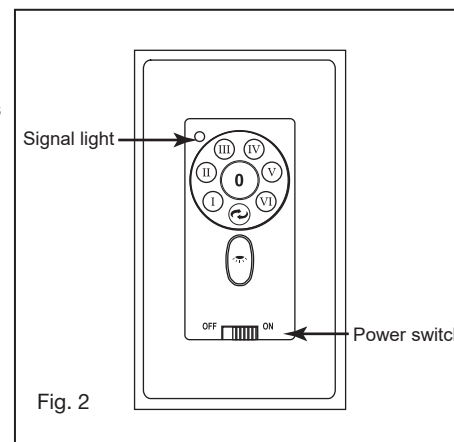

Fig. 2
2. Make wire connections from the fan to the receiver unit. For this step use the bundle of 5 wires on the receiver. (Fig. 2)
- 4 Install the wall transmitter on the existing wall outlet box using the screws provided. Attached the wall plate with the mounting screws to finish the installation. (Fig. 2)
- 6 ON - OFF Slide button: Power switch. (Fig. 2)
- 7 Signal light (Fig. 2)